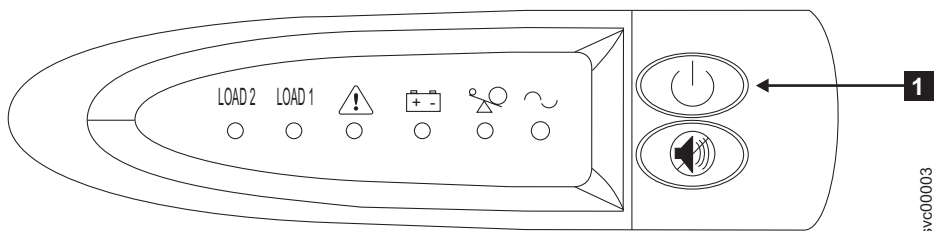

Figure 135. 2145 UPS-1U front panel assembly
1. At the front of the 2145 UPS-1U, press and hold the on/off button **1** until the power light is extinguished (approximately five seconds). See Figure 135. The 2145 UPS-1U enters standby mode.